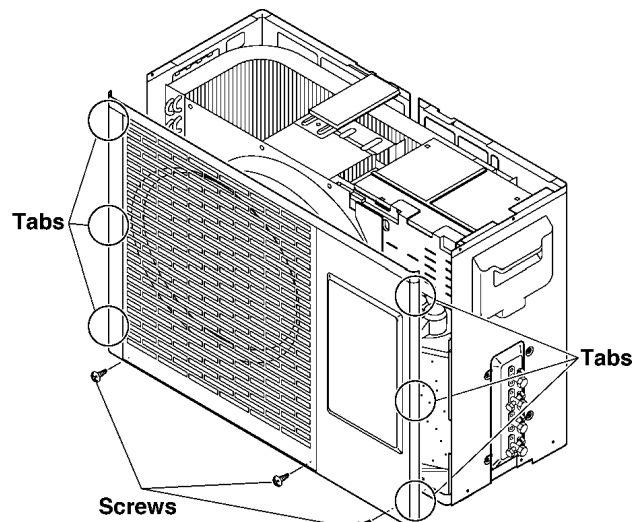

Fig. 21
2. Remove the front grille. (Three screws, Six tabs) (Fig.21)